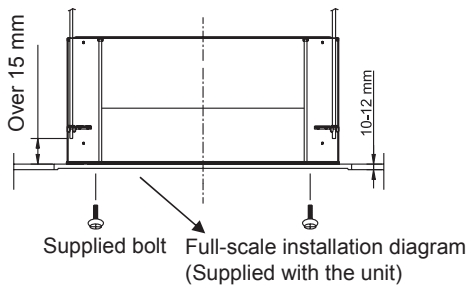

Fig 6
- The length of suspension bolts must be appropriate for a distance between the bottom of the bolt and the bottom of the unit of more than 15mm as shown in Fig 6.